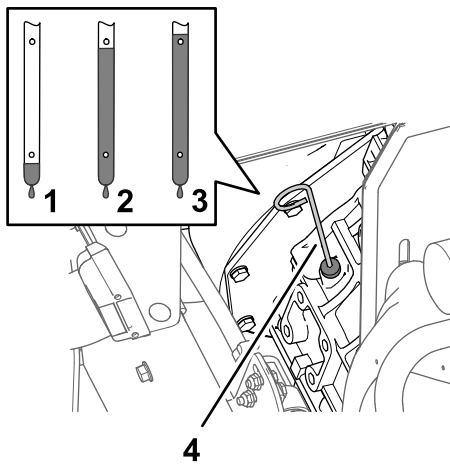

Figure 78
6. Remove the dipstick and check the oil level in the engine (Figure 78).
- Slowly add additional specified oil to bring the oil level to the Full mark on the dipstick (Figure 78).